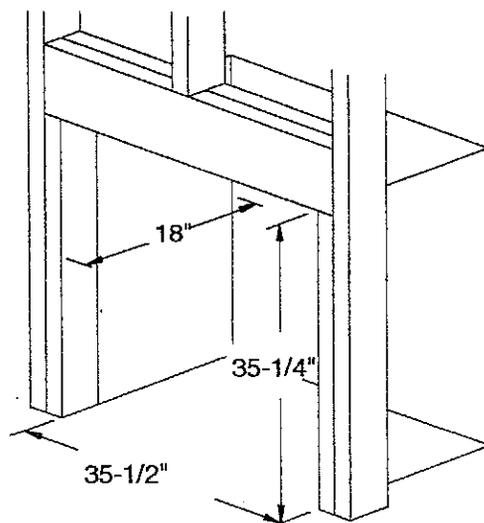

Figure 15 - Rough Opening for Installing in Wall
- Frame in rough opening. Use dimensions shown in *Figure 15* for rough opening.